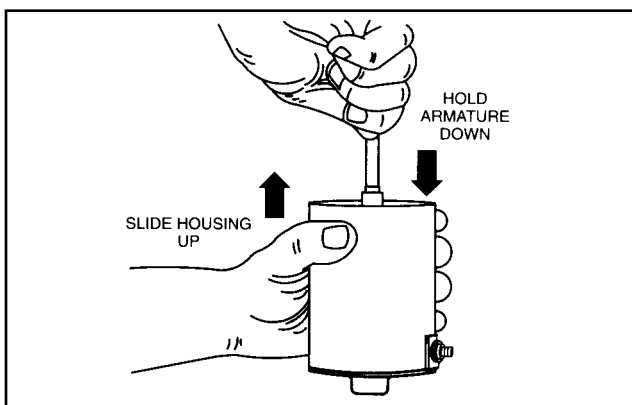

Fig. 12 - Removing Armature
3. Hold the armature and commutator end cap against a work surface while sliding housing off the armature, Fig. 12.